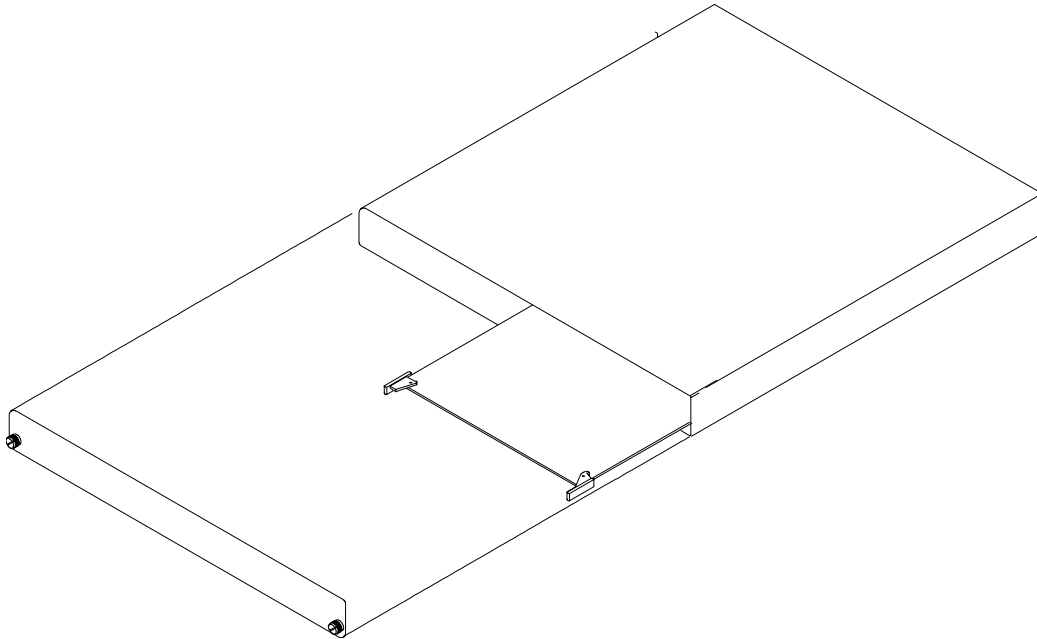

Figure 8-2: Accessing the FXS-ID Cards
1. Release the two thumbscrews on the AB2 back plate and remove the plate (see Figure 8-2).
2. To remove the FXS-ID slide-in voice card, pull out the two card ejector latches simultaneously to release the card from the internal connector, then slide the card carefully out from the rear of the AB2 chassis (see Figure 8-2).